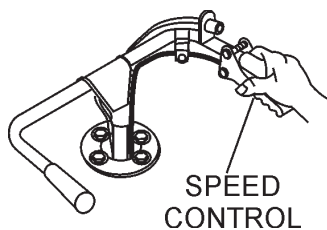

Figure 17. Speed Control Lever
3. Check the **speed control lever** (Figure 17) located on the right side of the handle bar. The speed control should work freely when squeezed by hand, and return to the closed position when released.
5. Slowly squeeze the speed control lever slightly (Figure 17), for a short period of time to test the brake holding capacity. If the AWD Power Buggy moves forward, adjust the brakes as outlined in the maintenance section of this manual.
2. Squeeze the **speed control lever** (Figure 17) slightly until the AWD Power Buggy begins to move in a forward direction. Let the buggy travel at about 3 MPH.